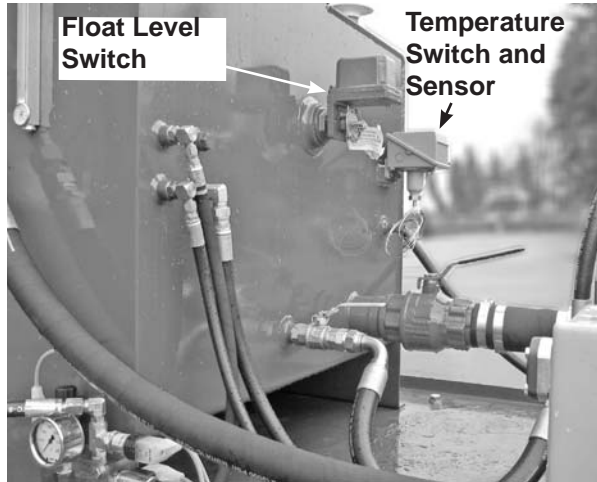
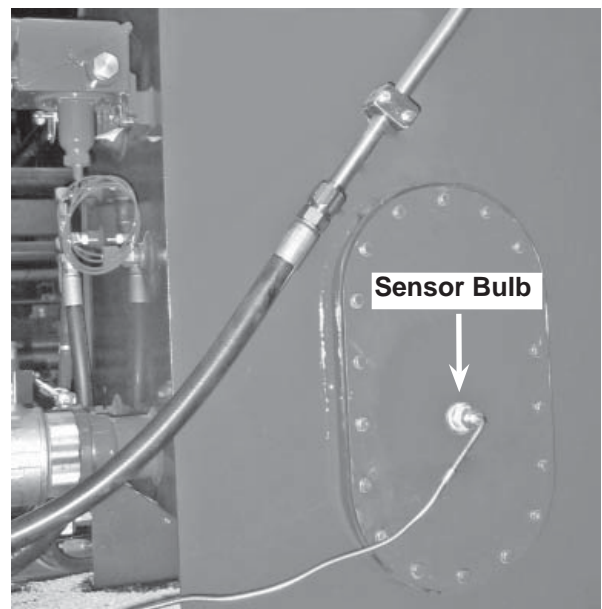

Figure 13 - Temperature and Float Level Switch
Figure 17 - Oil Temperature Sensor Bulb for Heat Exchanger
**Emergency motor stop and low oil shutdown** The emergency motor stop switch and low oil shutdown float switch (see Figure 13 page 6) are connected to control box terminals 15 and 16 (see wiring diagram 903057). Connect the motor starter power as shown on 903057 to place the switches in series with the motor control circuit.
**Oil Level Float Switch** An emergency low level float switch (see Figure 13) is installed to automatically stop the pump to protect it from damage in the event of line breakage or faulty maintenance. The low level float switch is connected as shown on 903057 wiring diagram.
The optional Oil Cooler uses the Temperature Switch sensor Shown in Figure 13. The Oil to Water Heat Exchanger uses the Sensing Bulb shown in Figure 17.